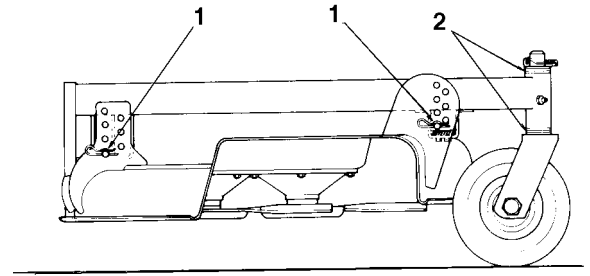

Figure 17
- A. Cutting units usually operated at 25 mm to 50 mm height-of-cut should have the low side of the cutting unit raised. Remove the lynch pin securing castor wheel on low end (Fig. 17) and remove the castor assembly.
- B. Transfer one thrust washer from top side of the castor shaft to lower side, install the castor assembly and compare blade height of all blades; refer to items 3 through 7. Continue adding thrust washers if height still does not meet requirements.
- C. If the cutting unit is operated at 5–10 cm height-of-cut, lower the high side of the cutting unit. Remove lynch pin of the castor at high end of unit and remove the castor assembly (Fig. 17).
- D. Transfer one thrust washer from lower side of the castor shaft to top side, install assembly and compare blade height of all blades; refer to items 3 through 7. Repeat procedure if height still does not meet requirements.